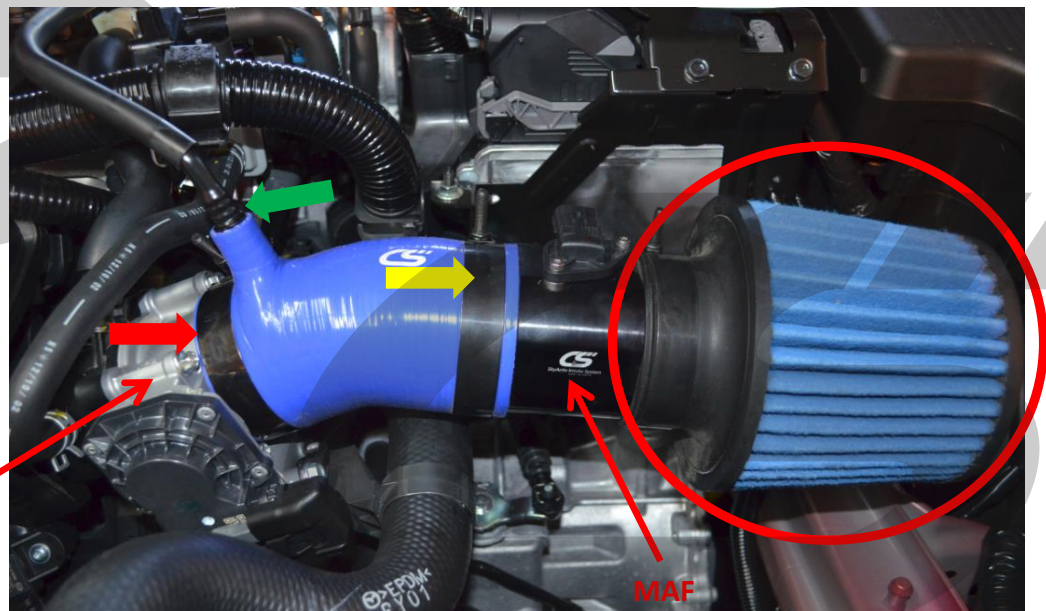

Figure 2a
- a) Install silicone elbow onto throttle body with 77-85mm T-Bolt Clamp. Make sure to orient the elbow so the breather tube is facing up. (Red Arrow in Figure 2a)
- b) Install breather tube fitting into the CS silicone elbow facing up (as shown with Green Arrow in Figure 2a) and adjust to the correct angle
- c) Tighten 77-85mm T-Bolt Clamp at throttle body with 10mm Socket (Red arrow in Figure 2a)
- d) Install CS MAF onto CS silicone elbow with AIRFLOW pointing towards the throttle body. This will be the direction of flow. Then tighten the 83-91mm T-Bolt clamp to hold the MAF to the silicon elbow. (Yellow arrow in Figure 2a)
- e) Install air filter on MAF assembly and tighten 83-91mm T-bolt clamp with a 10mm socket. (Red Circle in Figure 2a on previous page)
- a) Install silicone elbow onto throttle body with the 77-85mm T-Bolt Clamp. Make sure to orient the elbow so the breather tube is facing up. (Green Arrow shows the breather tube and Red Arrow in Figure 2a shows the clamp location)
- b) Install breather tube fitting into the CS silicone elbow so that it seats all the way. (as shown with Green Arrow in Figure 2a)
- c) Tighten the 77-85mm T-Bolt Clamp at throttle body with 10mm Socket (Red arrow in Figure 2a)
- d) Install CS MAF onto CS silicone elbow with AIRFLOW pointing towards the throttle body. This will be the direction of flow. Make sure to orient the MAF sensor opening at the top similar to the factory setup. If everything is installed correctly the wiring will come out the backs side as shown. Then tighten a 83-91mm T-Bolt clamp to hold the MAF to the silicone elbow. (Yellow arrow in Figure 2a)
Make sure the Arrow on the back side of the MAF is pointing towards the throttle body. The MAF sensor wiring will be coming out of the back side of the MAF as shown in Figure 2a.